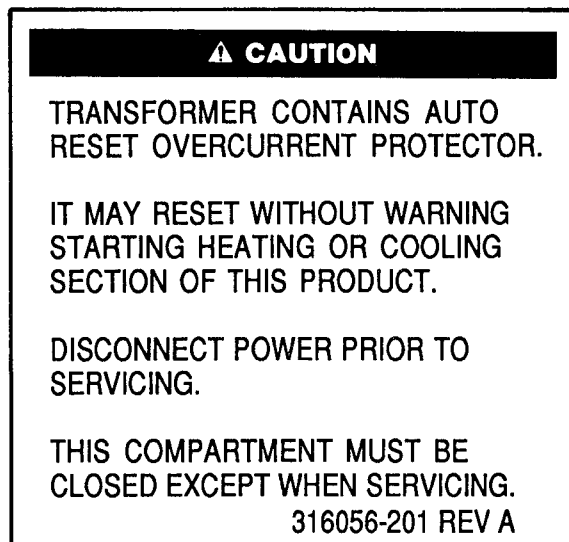

Fig. 14 — Transformer Label
2. Run high-voltage leads into unit control box and connect to contactor on single-phase units and to power leads on 3-phase units. See unit wiring label, and Fig. 14.